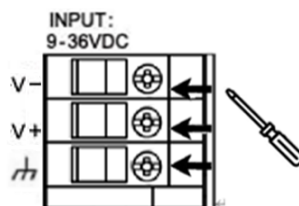

Figure 2.5 - Wire-Clamp Screws on the Side Panel
2. Tighten the wire-clamp screws to prevent the wires from loosening, as shown below in *Figure 2.5*.